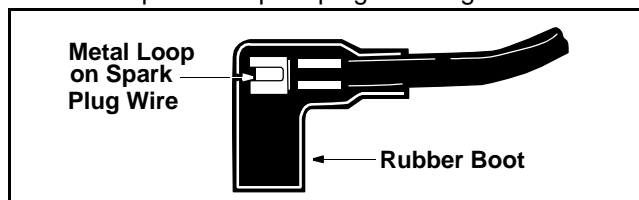

Figure 11
1. Attach spark plug wire to spark plug. Make certain the metal loop on end of the spark plug wire (inside the boot) is fastened securely over the metal tip on the spark plug. See Figure 11.